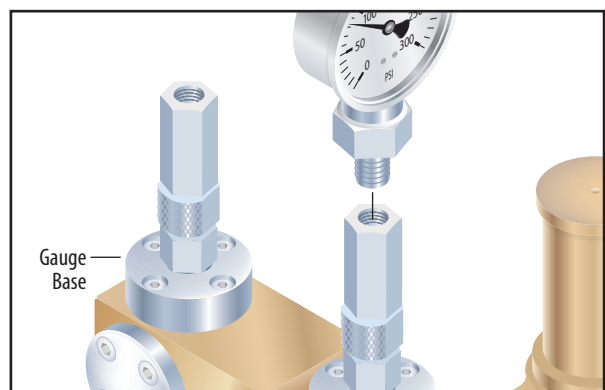

Figure 1
- 1 Remove all gauges and fittings from the **GaugeCalXP** pressure comparator (**figure 1**).